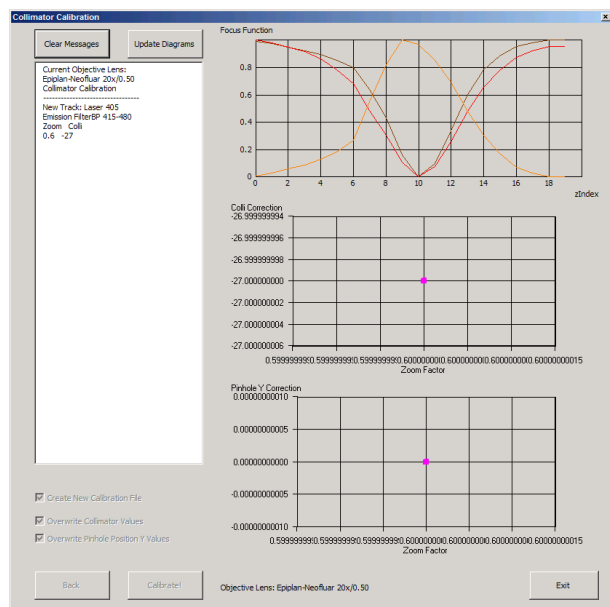

Fig. 14 Running the Calibration Matrix
- This window provides three check boxes (Fig. 14)